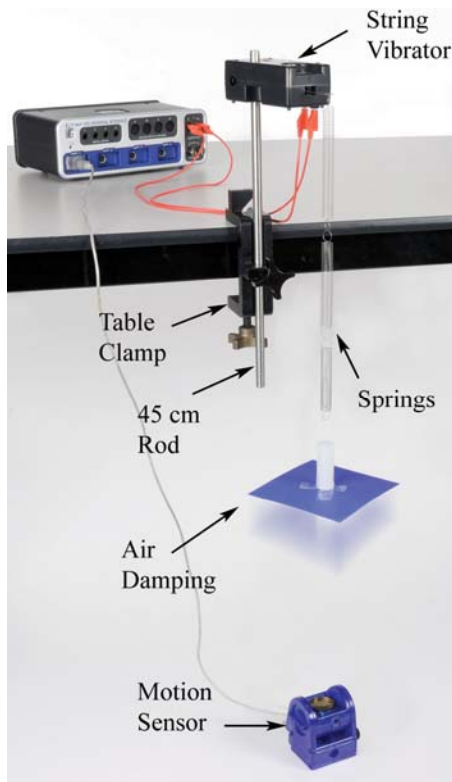

Figure 1: Driven Oscillations
2. Use the table clamp and 45 cm rod to support the String Vibrator out over the edge of the table as shown in Figure 1. Note that the vibrator is positioned label side down, with the patch cords coming out the bottom.